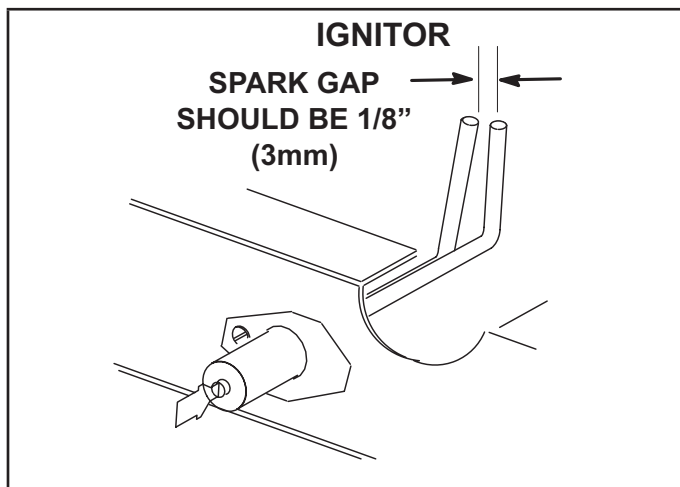

FIGURE 41
- 5 - Locate the ignitor under the right burner. Check ignitor spark gap with appropriately sized twist drills or feeler gauges. See FIGURE 41.